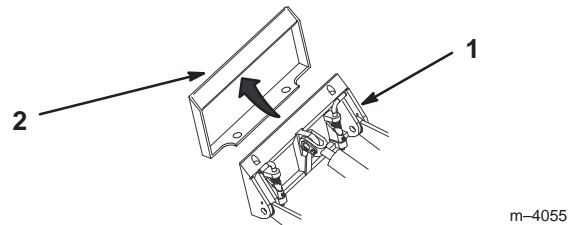

Figure 20
4. Position mount plate into the upper lip of the attachment receiver plate (Fig. 20).